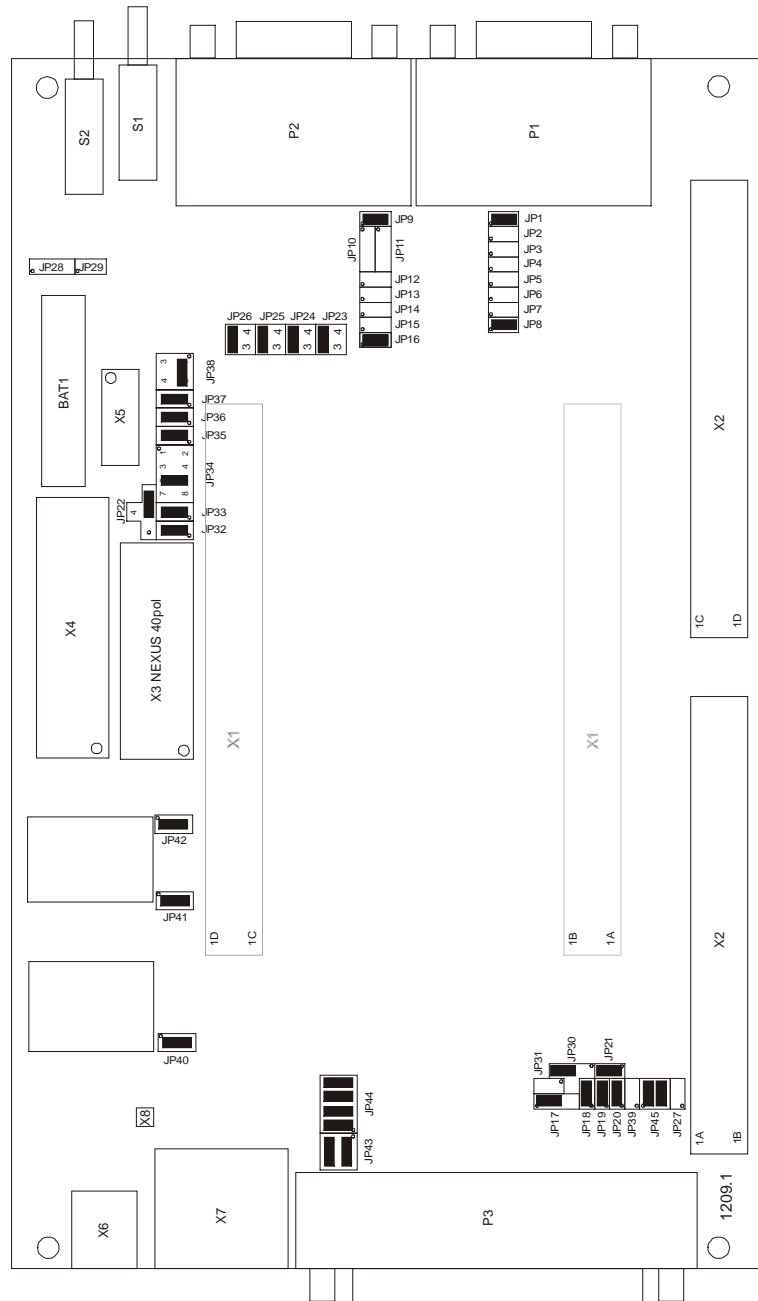

Figure 3: Default Jumper Settings of the phyCORE Development Board PCM-991 with phyCORE-MPC565
- Make sure Jumper JP17 on the phyCORE-MPC565 Development Board is closed at default position 1+2 (*refer to Figure 3*).